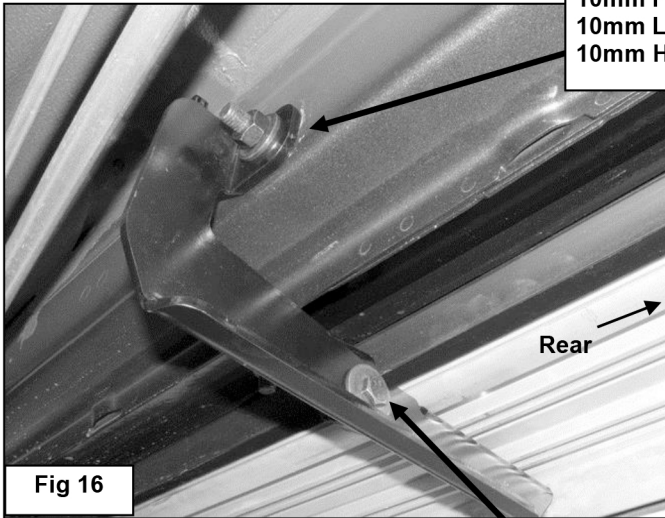

Fig 16
13. Select (1) Center Support Bracket, (Figure 15A). Attach the long end of the Support Bracket to the forward Bolt Plate in the frame channel with (1) 10mm Flat Washer, (1) 10mm Lock Washer and (1) 10mm Hex Nut, (Figures 15B & 17). Select the passenger side Center Bracket, (Figure 16). Attach the Bracket to the Bolt Plate in the back of the frame channel with (1) 10mm Flat Washer, (1) 10mm Lock Washer and (1) 10mm Hex Nut. Bolt the remaining end of the Support Bracket to the front of the Center Bracket with (1) 8mm Hex Bolt, (2) 8mm Flat Washers, (1) 8mm Lock Washer and (1) 8mm Hex Nut, (Figure 17). Do not tighten hardware at this time.